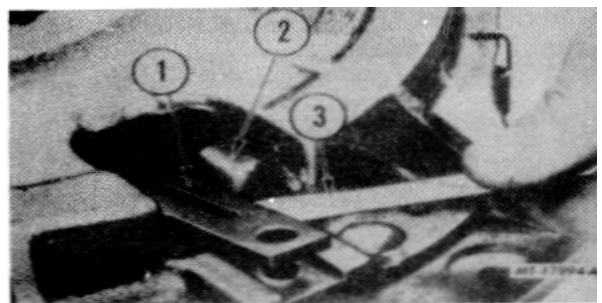

Fig 5 Removing Adjusting Ring Lock (Dana Clutch) (Manual Adjustment Type)
- a. Rotate engine flywheel until adjusting ring lock is exposed. Remove adjusting ring lock bolt and pry lock free of adjusting ring (Figure 5). Use caution when prying lock from adjusting ring as it is spring loaded.
- c. Use a large screwdriver to turn clutch adjusting ring. Turn adjusting ring counterclockwise to move release bearing toward flywheel; turn adjusting ring clockwise to move bearing housing away from flywheel. Rotation or movement of each notch will move release bearing housing approximately .5 mm (.020"). Thus, three (3) notches moved means about 1,6 mm (1/16") release bearing movement.